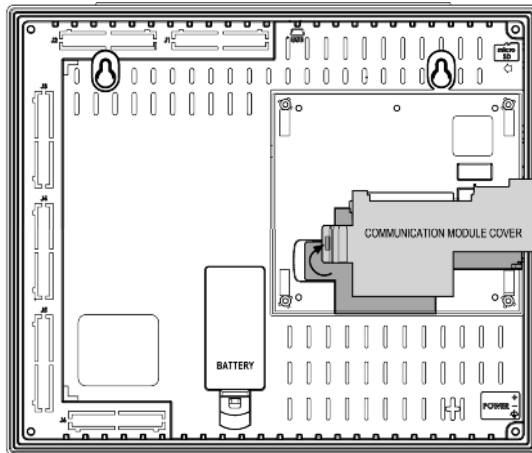

Figure 4. Communication Module Cover
2. Open the communication module cover shown in Figure 4.